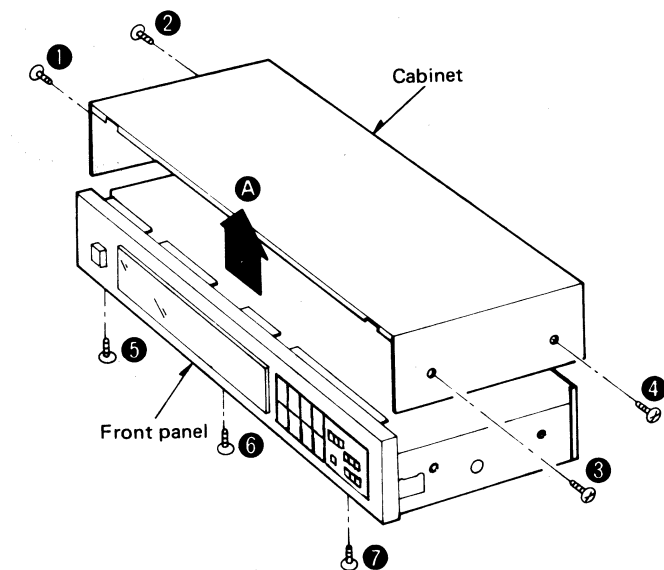
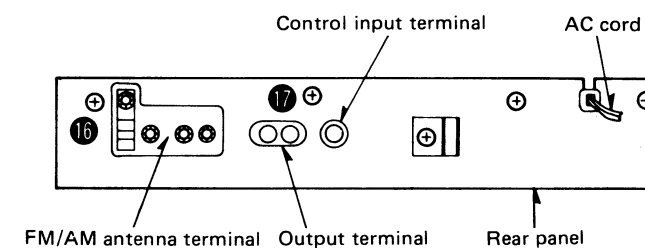
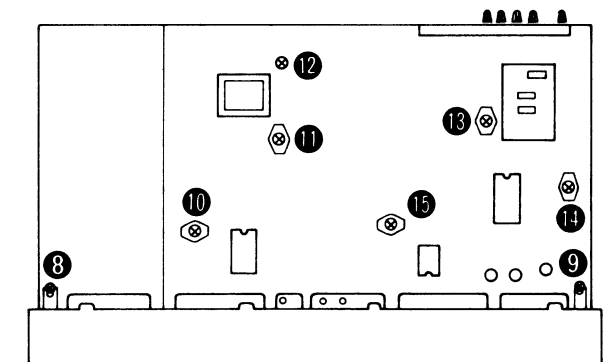

Fig. 1
Fig. 3
Fig. 2
1. Remove the 4 setscrews (1 ~ 4 in Fig. 1) of the cabinet.
2. Move the cabinet in the direction of the arrow A in Fig. 1.
3. Remove the 5 setscrews (5 ~ 7 in Fig. 1 and 8, 9 in Fig. 2) of the front panel and the 8 setscrews (10 ~ 15) in Fig. 2 and 16, 17 in Fig. 3) of the bottom board or rear panel.